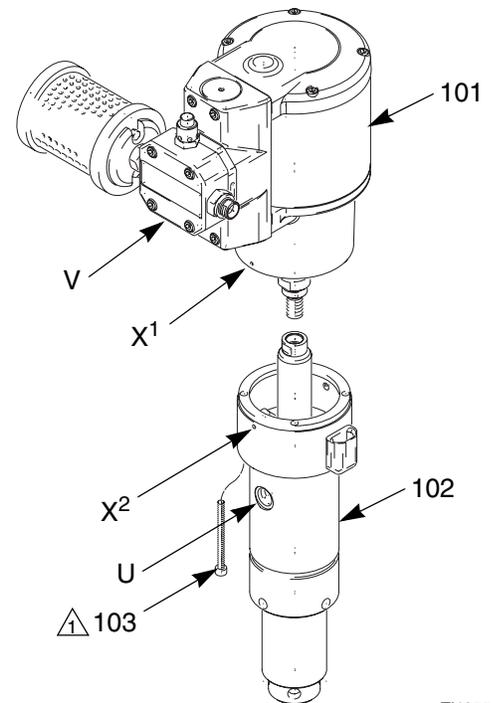

FIG. 4. Pump Connection
1. Turn the air motor (101) onto the displacement pump (102). Align the two indexing marks (X^1 , X^2); the pump fluid outlet (U) will face the same direction as the air valve (V). See FIG. 4.
2. Install the screws (103) to attach the displacement pump (102) to the air motor (101). Torque to 6.5-7.5 N•m (57-66 in-lb).